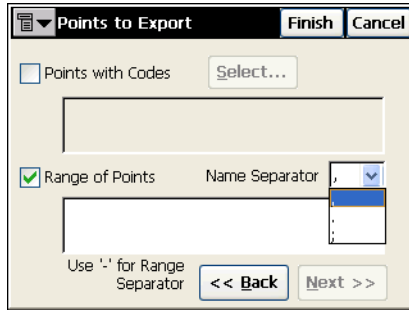

Figure 5-16. Points to Export
- If *By Range and Code* was selected in the *Points* drop-down menu, the *Points to Export* screen displays. On this screen, select the codes and/or the range of points to be exported (Figure 5-16 on page 5-10). To select codes, tap the **Select** button, check the codes associated with the points to be